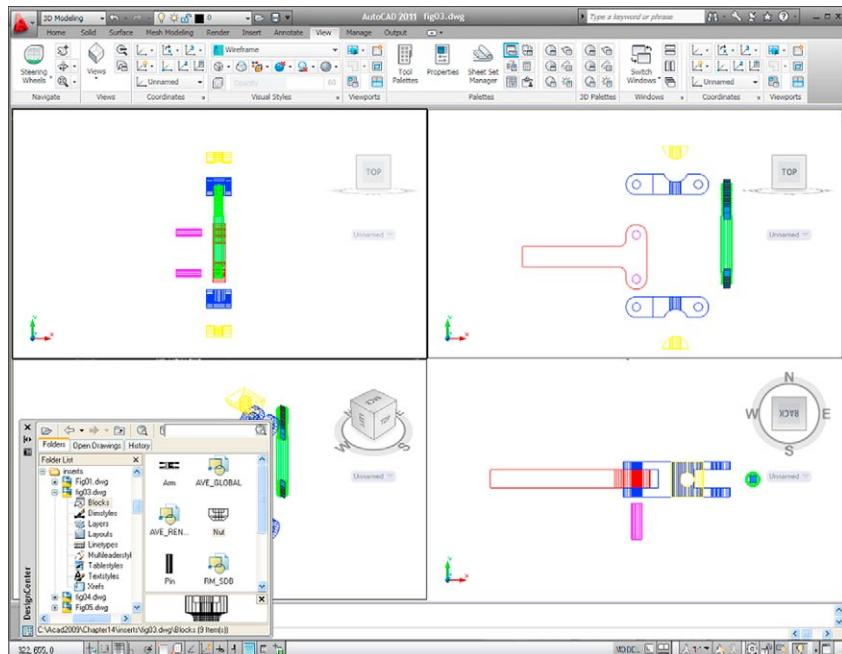

Fig. 14.3 First example – inserting 3D blocks
6. *Drag and drop* the blocks one by one into one of the viewports on screen. Fig. 14.3 shows the **Nut** block ready to be *dragged* into the **Right** viewport. As the blocks are *dropped* on screen, they will need moving into their correct positions in suitable viewports using the **Move** tool from the **Home/Modify** panel.
4. The examples of a **Four: Equal** viewports screen shown in Figs 14.3 and 14.4 are in **first angle**. The front view is top right; the end view is top left; the plan is bottom right.